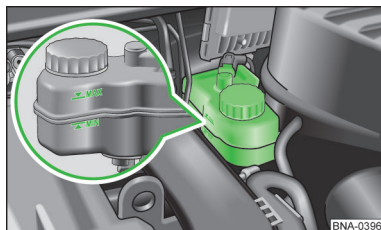

Fig. 81
Check brake fluid level - The brake fluid level must lie between the markings "MIN" and "MAX" » fig. 81.
- If the fluid level drops significantly within a short time or if it drops below the "MIN" » fig. 81 mark, this may be an indication of a leak in the brake system.  Do not continue driving - There is a risk of accident! Seek help from a specialist garage.